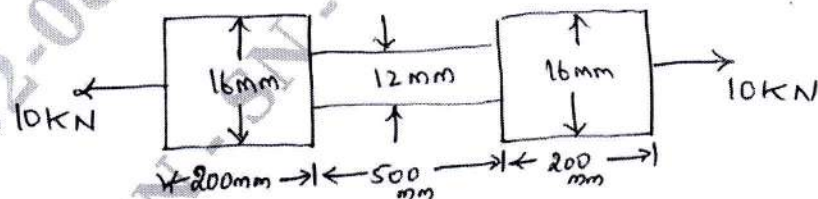

Fig. Q10 (b)
- b. The bar with circular cross section as shown in Fig. Q10 (b) is subjected to a load of 10 kN. Determine the strain energy stored in it. Take $E = 2.1 \times 10^5 \text{ N/mm}^2$.